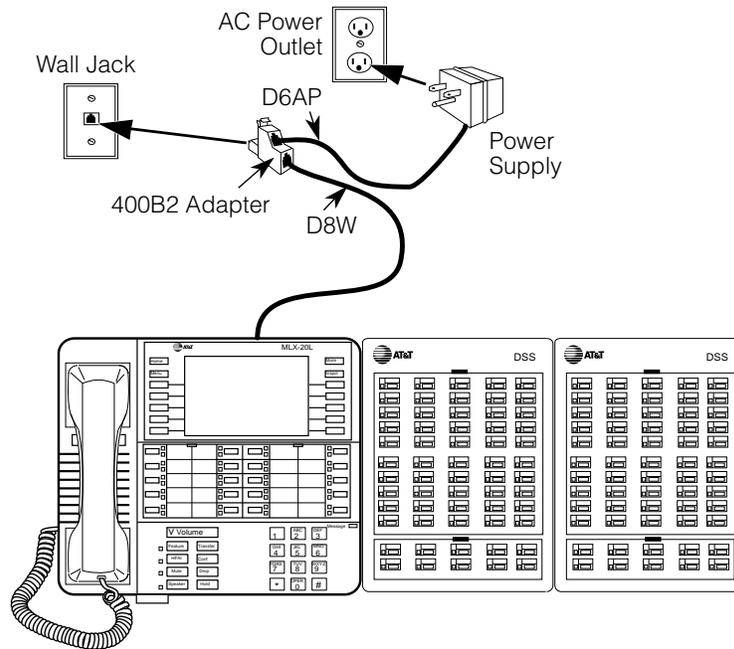

Figure 3–29. Wiring for Auxiliary Power
- 5 Turn the telephone and the DDS unit(s) face up with the telephone now to the left of the DDS unit(s). See Figure 3–29.**